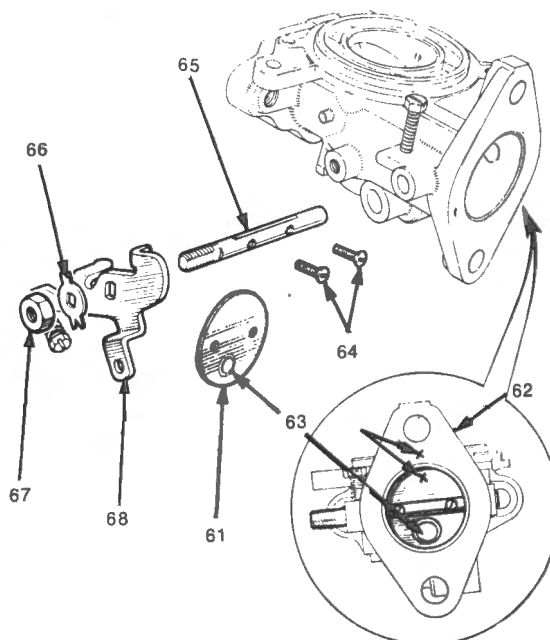

Fig. F-29
- 14 Slacken and remove the bolt (50) retaining the float chamber (33) to the carburettor body. Note the component sequence of the flexibly mounted chambers (33) and (51).
- 15 Mark the location (52) of the float chamber lid (53). Unscrew the lid retaining screws (54) and detach the lid and its gasket (55) complete with the float assembly (56).
- 16 Push out the float hinge pin (57) from the end opposite its serrations and detach the float.
- 17 Extract the float needle (58) from its seating (59) and unscrew the seating from the lid using a wrench 8.58 mm (0.338 in) across the flats. Take care not to distort the seating. Refer Fig. F-29.
- 18 Close the throttle and mark the relative positions (60) of the throttle disc (61) and the carburettor flange (62).
- 19 Unscrew the two disc retaining screws (64). Open the throttle and ease out the disc from its slot in the throttle spindle (65). The disc is oval and will jamb if care is not taken. Place the disc in a safe place until required for assembly.